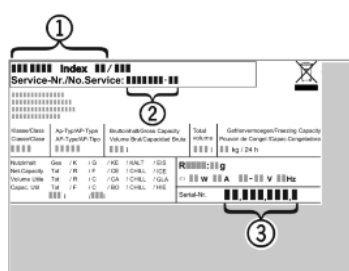

Fig. 19
- ▶ Read the appliance designation *Fig. 19 (1)*, service No. *Fig. 19 (2)* and serial No. *Fig. 19 (3)* off the model plate located inside the appliance on the left-hand side.
- ▶ Notify the customer service, specifying the fault, appliance designation *Fig. 19 (1)*, service No. *Fig. 19 (2)* and serial No. *Fig. 19 (3)*.